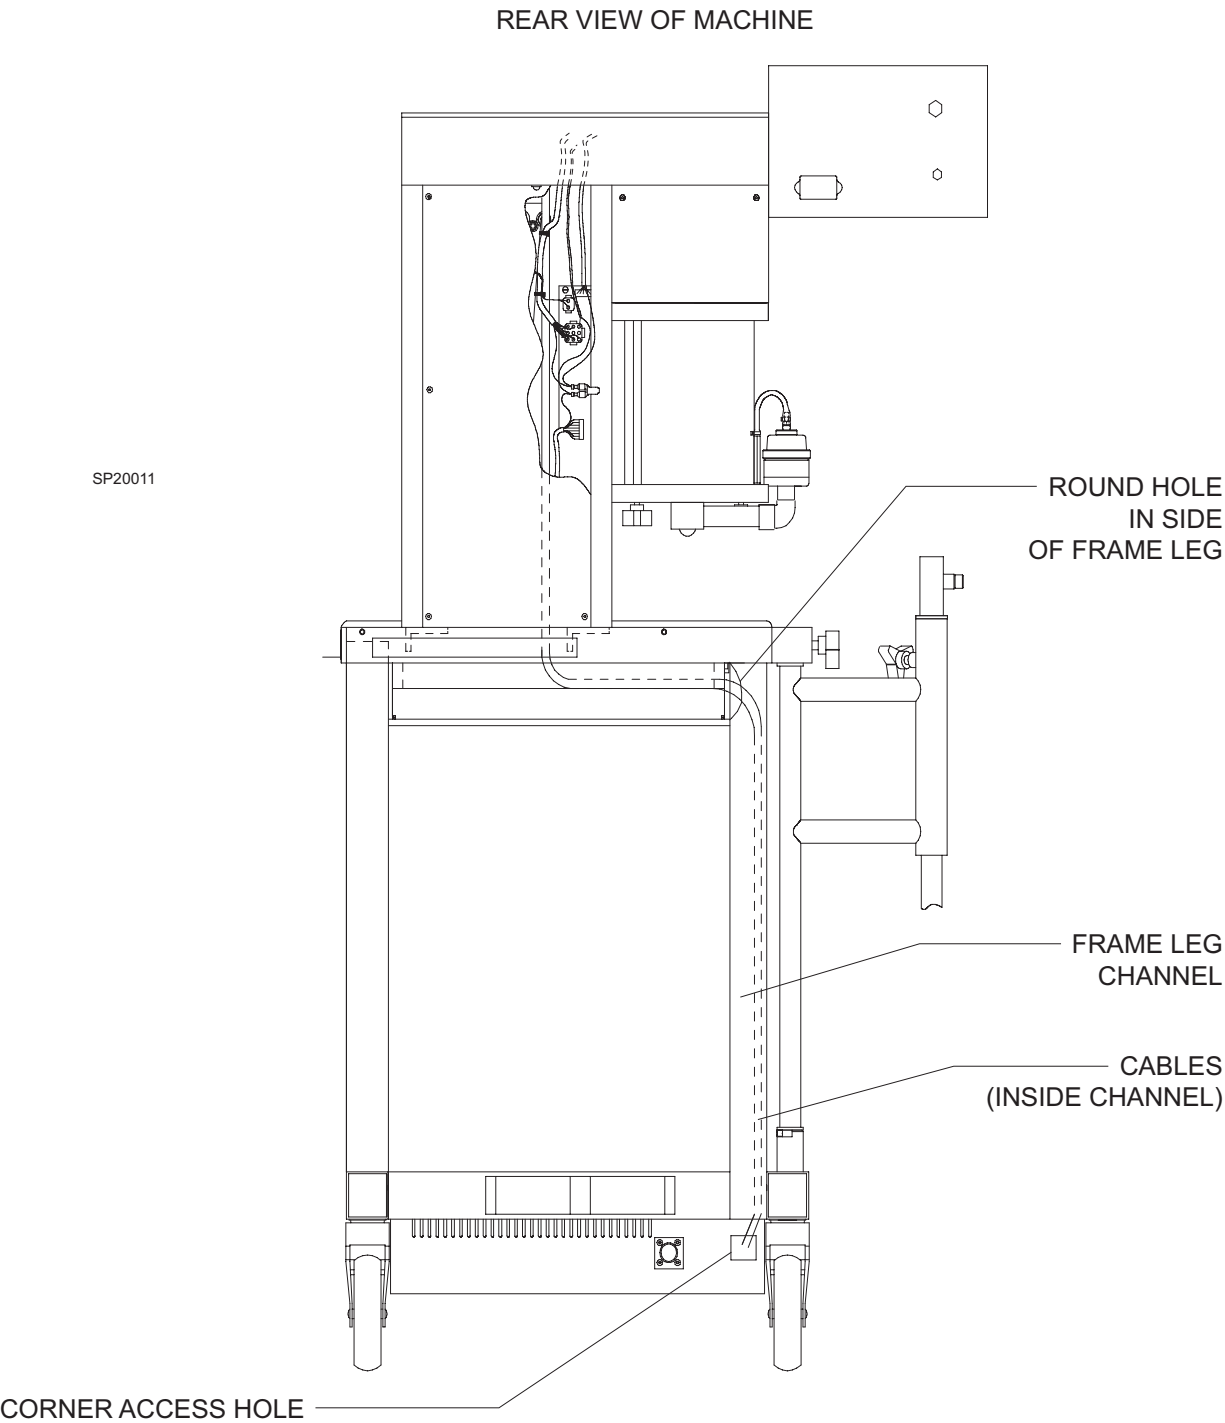

FIGURE 11. Cable Routing Arrangement
80. Route the cables from the battery box out through the corner access hole at the rear of the battery box and straighten the cables out on the floor. See Figure 11.